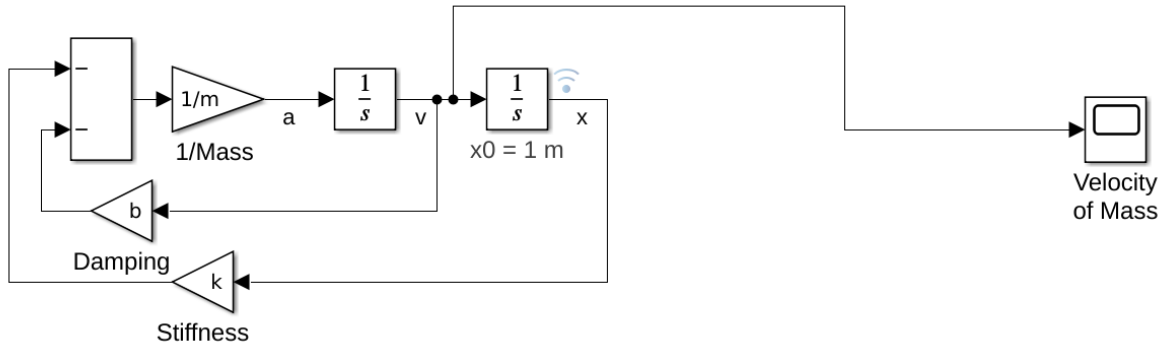

Figure 2: The Simulink model of the mass-spring damper.
1. Rearrange equation (1) so that only the term \ddot{x} is in the left hand side of the equation.
2. Construct a Simulink model of the system as shown in Figure 2 with the following values of parameter $b = 10$, $k = 400$, $m = 20$.